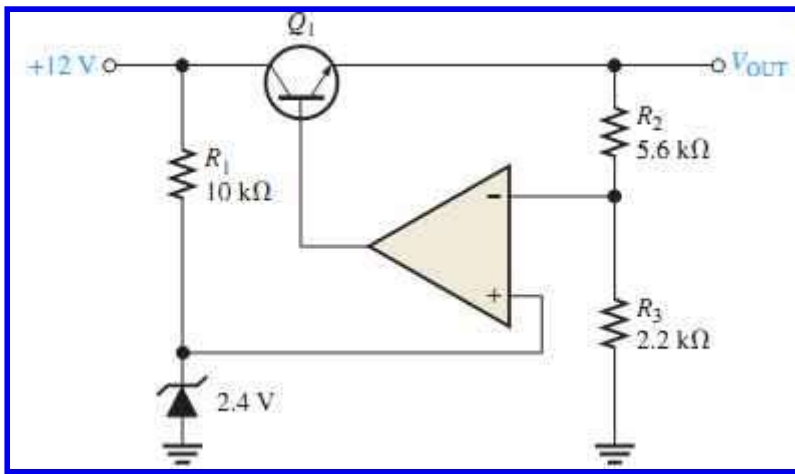

FIG. 46
7. Determine the output voltage for the series regulator in FIG. 46.
8. If R_3 in FIG. 46 is increased to 4.7 k OHM what happens to the output voltage?
9. If the zener voltage is 2.7 V instead of 2.4 V in FIG. 46, what is the output voltage?